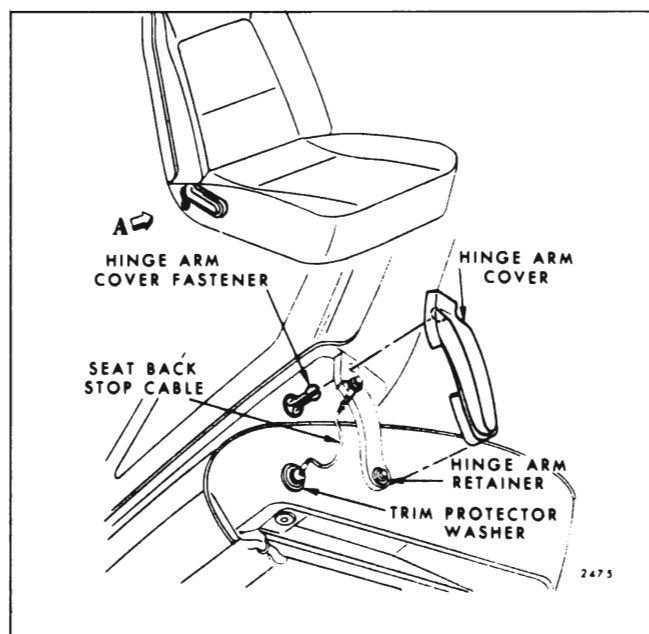

Fig. 15-29—Seat Back and Cable Stop
1. Using a flat bladed tool inserted between passengers seat back outer hinge arm cover and hinge arm, carefully disengage upper portion of cover from fastener and remove cover from outer hinge arm (Fig. 15-29).
2. At outer side of passengers bucket seat cushion, remove screw securing seat back stop cable and trim protector washer to seat cushion frame (Fig. 15-29).
3. Remove bolt securing seat back stop cable and spring to seat back outer hinge arm (Fig. 15-29) and remove cable and spring from seat.
4. To install seat back stop cable or spring, reverse removal procedure. Make certain spring is engaged with stop cable and seat back hinge arm, as shown in Fig. 15-29).
2. Using a flat bladed tool inserted between seat back hinge arm and hinge arm cover, carefully disengage upper portion of cover from fastener and remove cover from both inner and outer hinge arms (See Fig. 15-29). If removing passengers seat back on "F" Styles remove screw securing seat back stop cable and trim protector washer to seat cushion frame (Fig. 15-29).
3. Carefully disengage and remove retainer securing both inner and outer hinge arms to seat cushion hinge pins (Fig. 15-29).